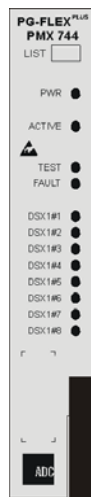

Figure 11. PMX-744
1. Install the first PMX-744 (Figure 11) in the shelf slot labeled "MUX1".
4. Install the second PMX-744 (Figure 11) in the shelf slot labeled "MUX2"